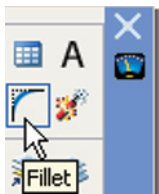

Fig. 5.43 The **Fillet** tool icon from the **2D Draw** control panel
2. Call Fillet – either *clickits* tool icon in the **2D Draw** control panel (Fig. 5.43), or *pick* its tool icon in the **Modify** toolbar, or *pick* **Fillet** from the **Modify** drop-down menu, or *enter* **f** or **fillet** at the command line, which then shows: